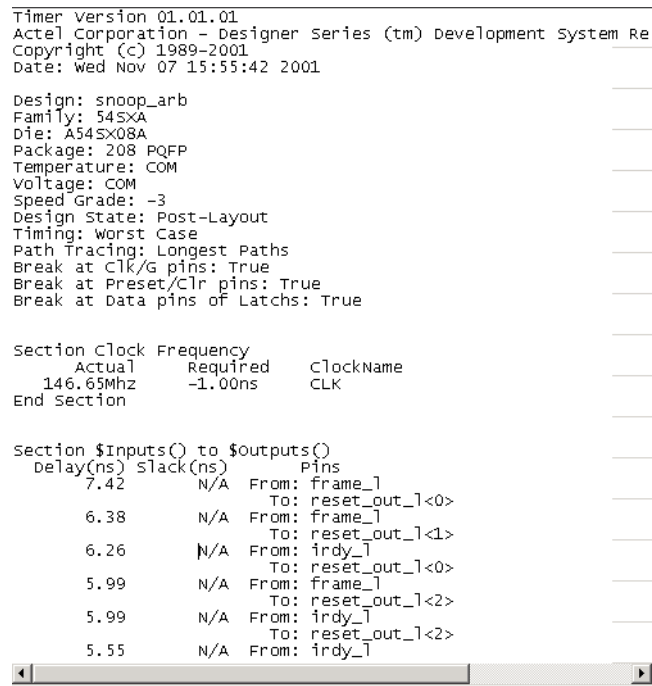

Figure 2-39. Timing Report (Axcelerator, SX-A, eX, ProASIC *Plus* families)
7. **Click OK.** This displays a timing report based upon your timing and display preferences, as shown in Figure 2-39. The format and content of the report is determined by the family.